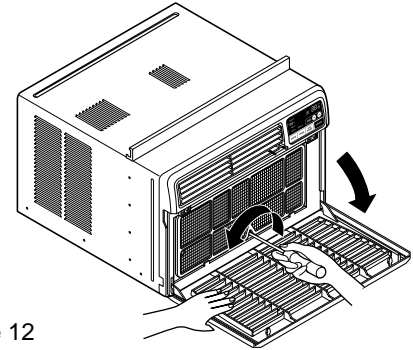

Figure 12
2. Remove the screw that fastens the front grille.(See Figure 12)